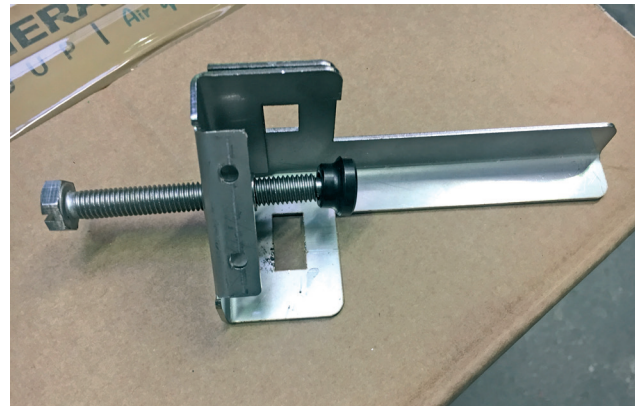

Figure 30
- Each filter frame cell is equipped with four fixing elements (Figure 30) at the corners.